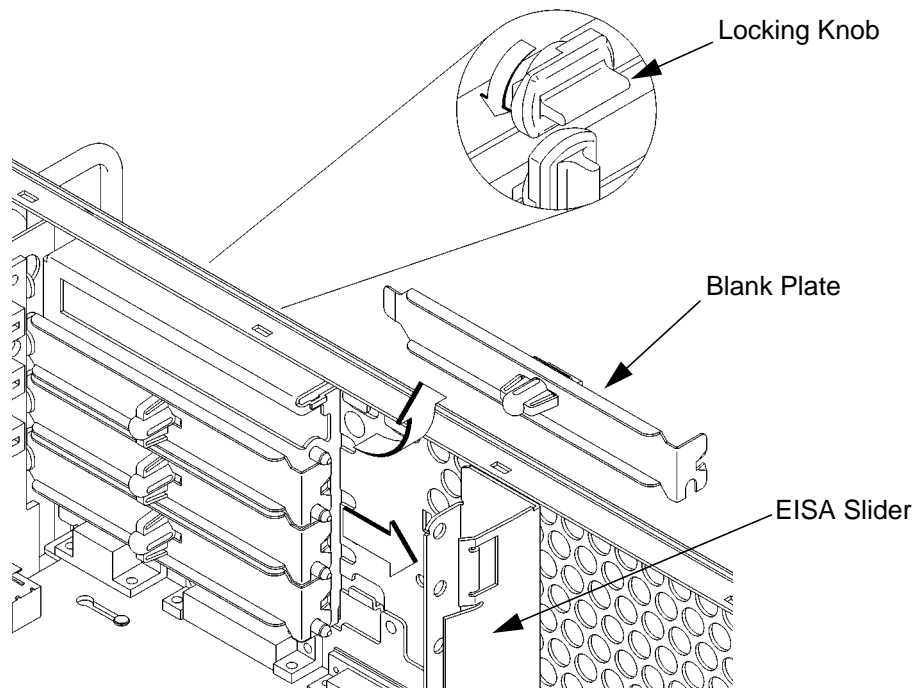

**Figure 41**
- 2 Press the fan release clip and rotate the fan, as shown in Figure 41.
- 3 Remove the screw from the EISA retainer, and remove the EISA retainer, as shown in Figure 41.